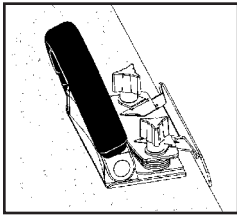

FIG. 1
- Vinyl-coated ratchet handle can fold down for trimming under toe spaces (see figs.1 and 2).